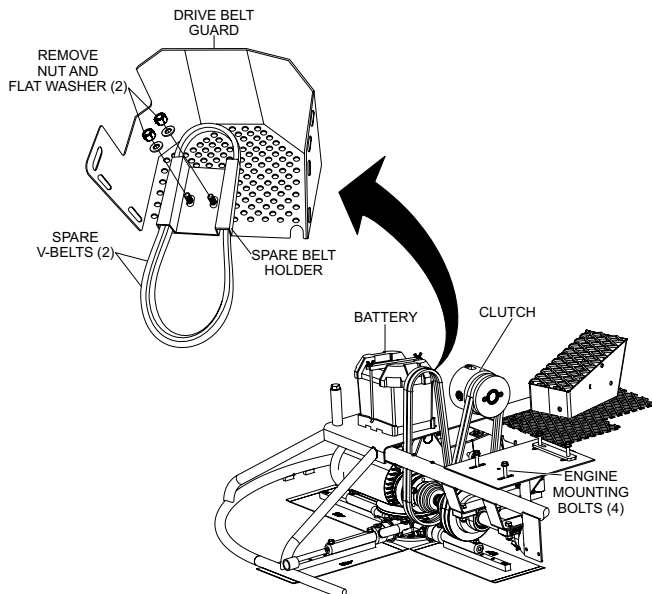

Figure 23. Spare Belt Removal
3. Remove the nut and flat washer (Figure 23) that secure the spare belt holder to the drive belt guard.